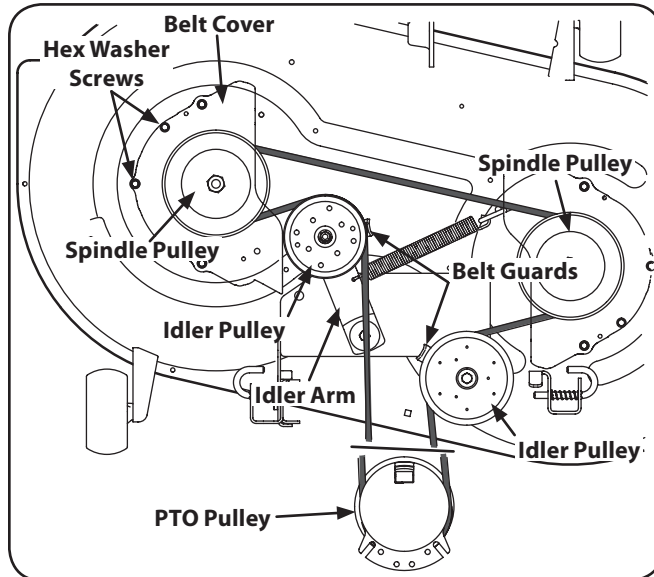

Figure 7-8
2. Remove the hex washer screws securing the belt covers to the deck. See Figure 7-8.
5. Install the new belt around the spindle pulleys as shown and reinstall the belt covers. See Figure 7-8.
6. Place the belt around the idler pulleys removed in step 3 with the "V" side facing in. Once in place, reinstall all the hardware and tighten the flange lock nut to secure the assembly. See Figure 7-8.
7. Route the belt as shown in Figure 7-8 and then reinstall the deck (refer to Deck Installation on page 30).